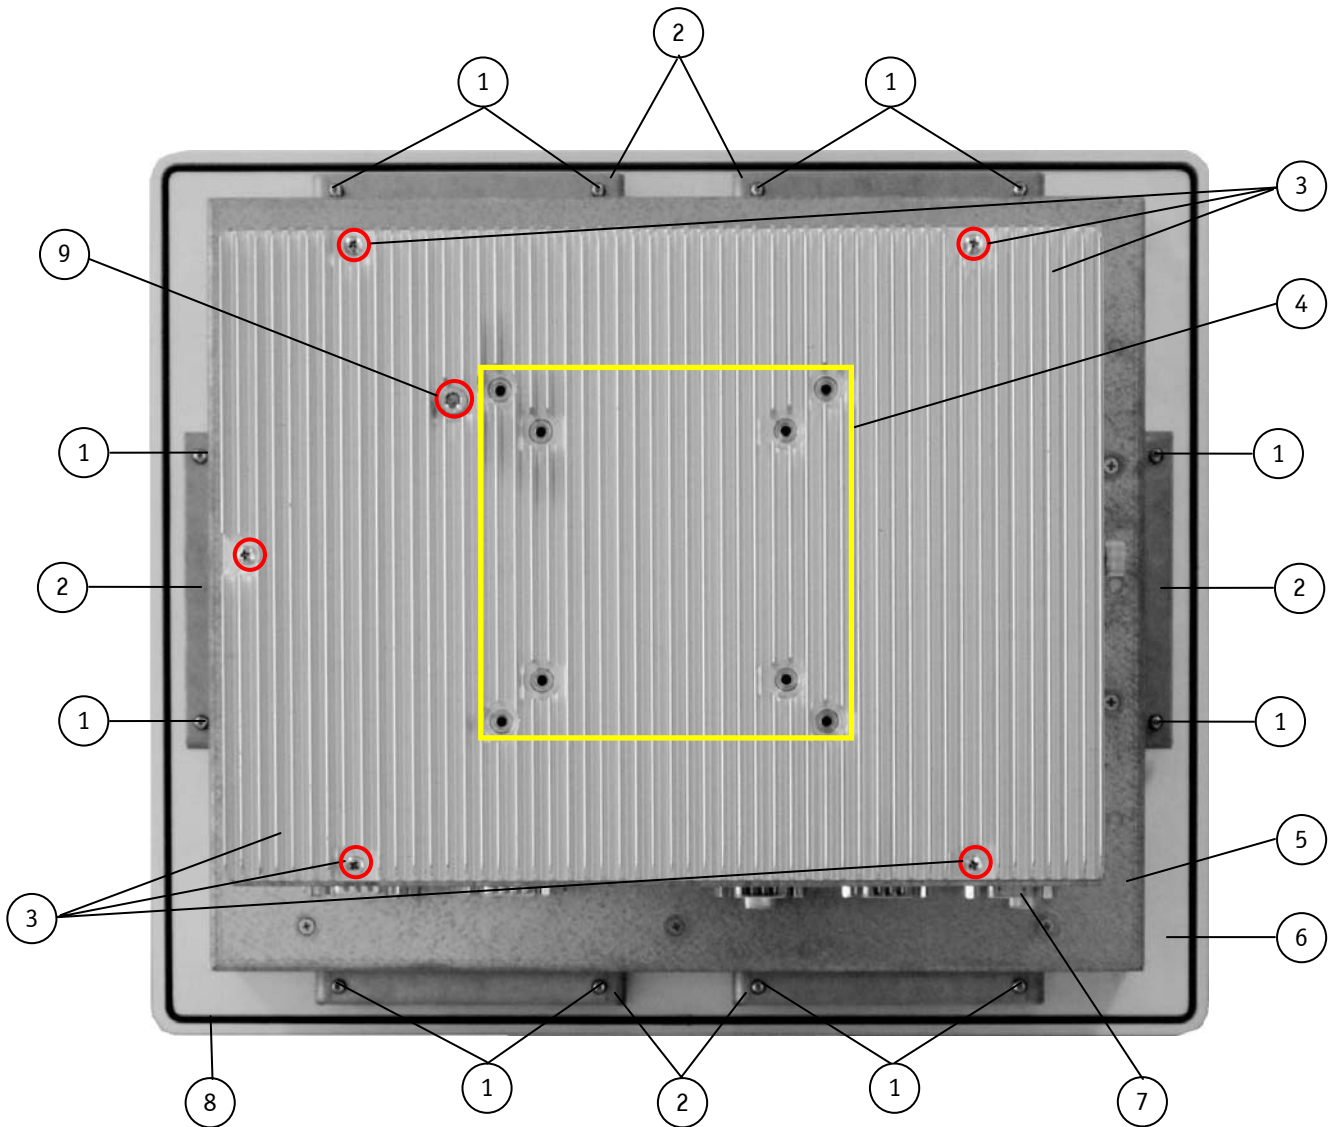

Fig. 16: Rear side of V Panel Express
Please do not remove the screws marked with red (Fig. 16, pos. 3 and 9).